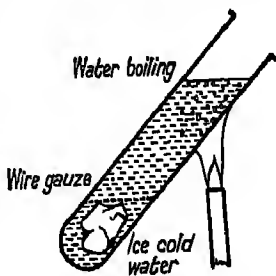

FIG. 239. Water is a bad conductor of heat.
**Expt. 288. To show that water is a bad conductor of heat.** Put a little ice in a test-tube and add water until the test-tube is about three-quarters full. Keep the ice at the bottom by means of a piece of metal gauze. Heat the water at the top by a bunsen flame (Fig. 239). In time the water will boil at the top but the ice will remain unmelted at the bottom. Of course, in time the ice will melt because water does conduct heat to some extent and the ice will also gain some heat from the room.